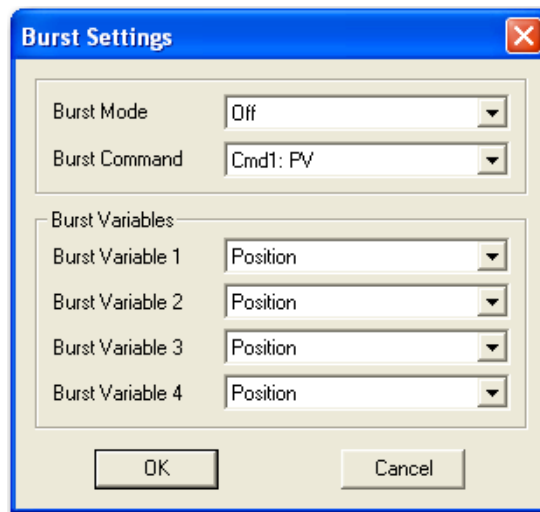

Figure 82 Burst Settings
2. Click **Burst Settings** and Figure 82 appears.